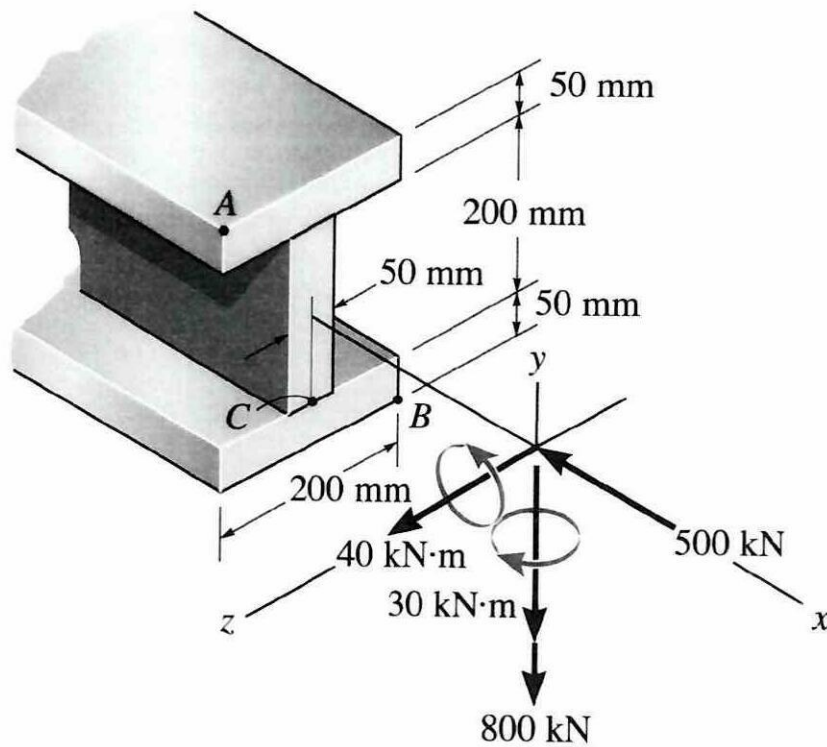

Figure Q2: The internal loadings at a section of the beam
- Q2** The internal loadings at a section of the beam are shown in Figure Q2.